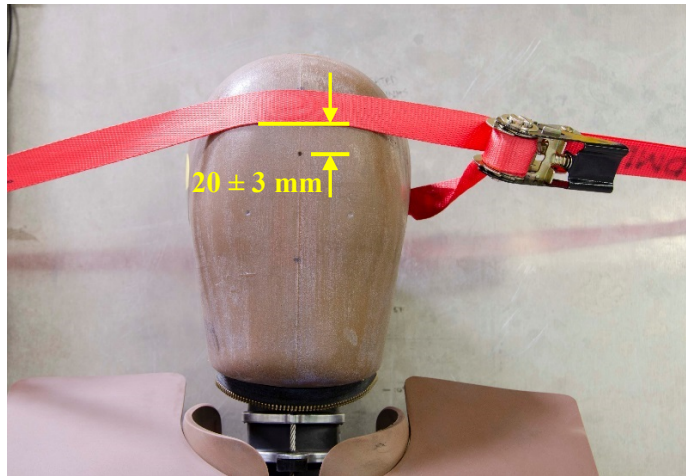
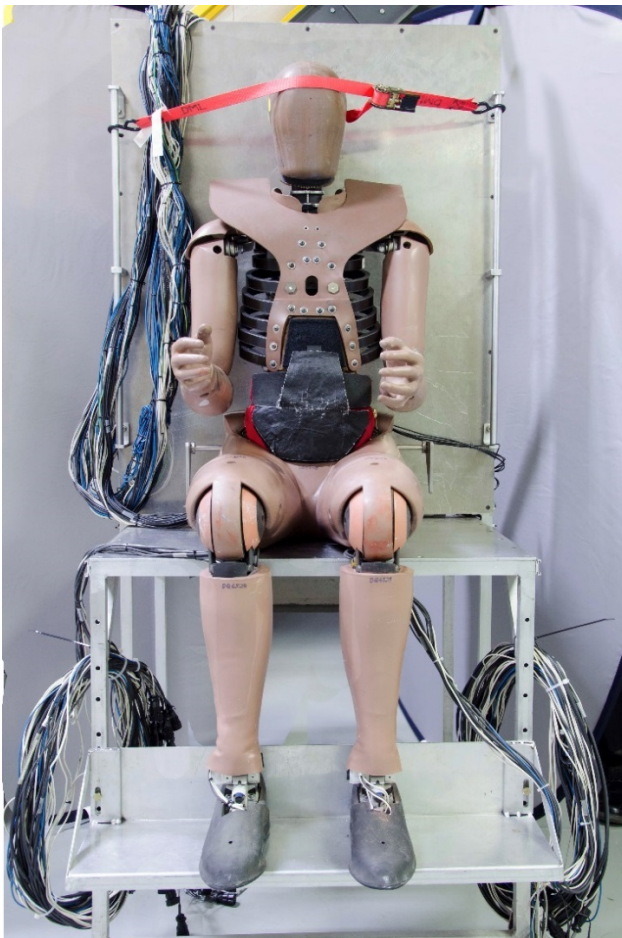

Figure 19-7. Placement of head strap
Figure 19-8. External dimension measurement setup for THOR-50M
13. Install an adjustable tension strap across the forehead such that the bottom edge of the strap is 20 ± 3 mm above the nasion indicator on the skin (Figure 19-7). The strap should *not* be across the face foam. Figure 19-8 shows the dummy positioned in the seat.